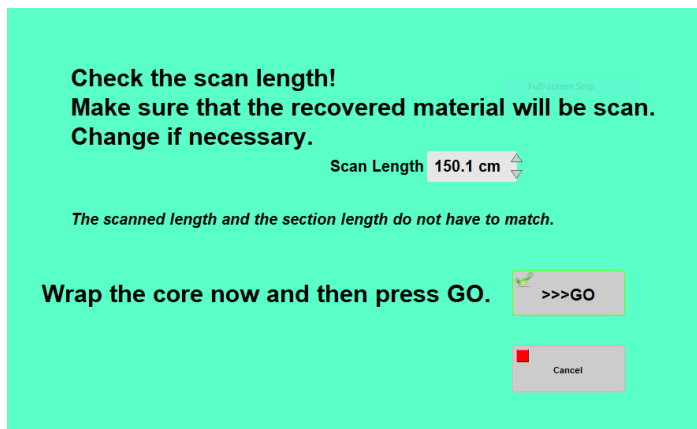

Figure 9. Confirmation length window
7. After profile completion, a pop-up is displayed, containing the measured section length. Confirm this length visually (Figure 9) and adjust if needed.